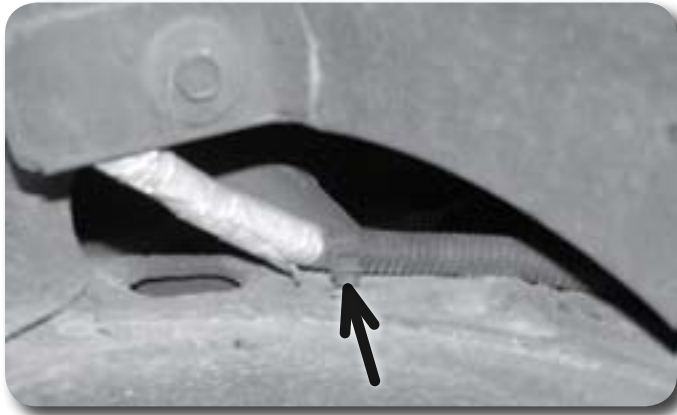

Figure 22
26. Remove the wire harness from the plastic retaining clip on the driver's side frame rail Figure 22.